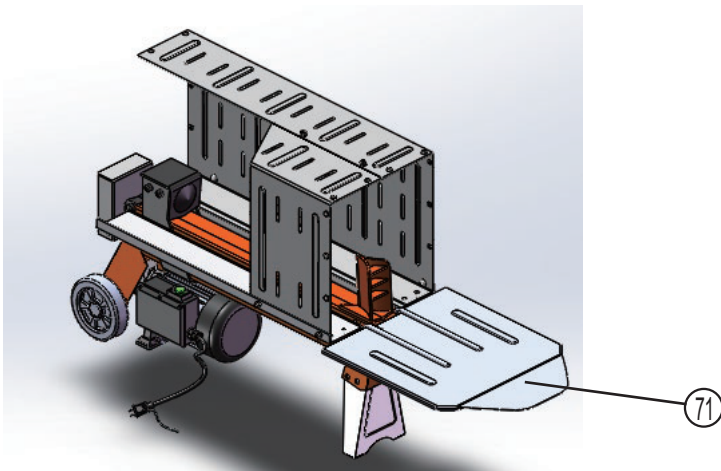

Figure 3a
- Hook the frontal support stand (71) to the circular convex platform, as shown in Figure 3a.